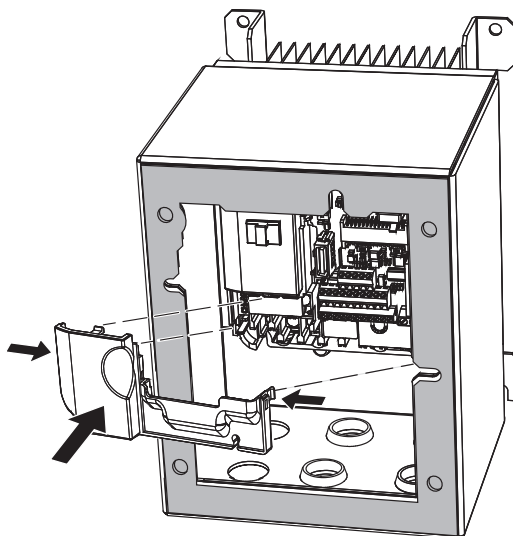

Figure 27 Reattach the IP66/UL Type 4X Lower Terminal Cover
26. For IP66/UL Type 4X enclosure models, reattach the lower terminal cover, (on certain models), to the drive by aligning the left and right tabs and snap into place (see Figure 27).